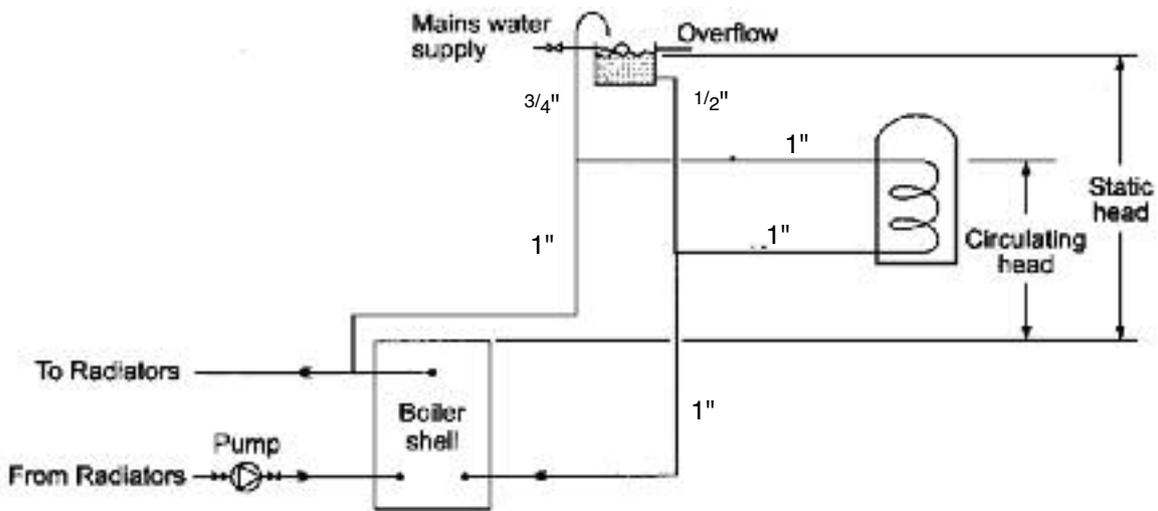

Fig. 9 - 50/70 and 50/90 and 90/120 connections shown
3.10.2 Gravity domestic hot water - (See Fig. 9)